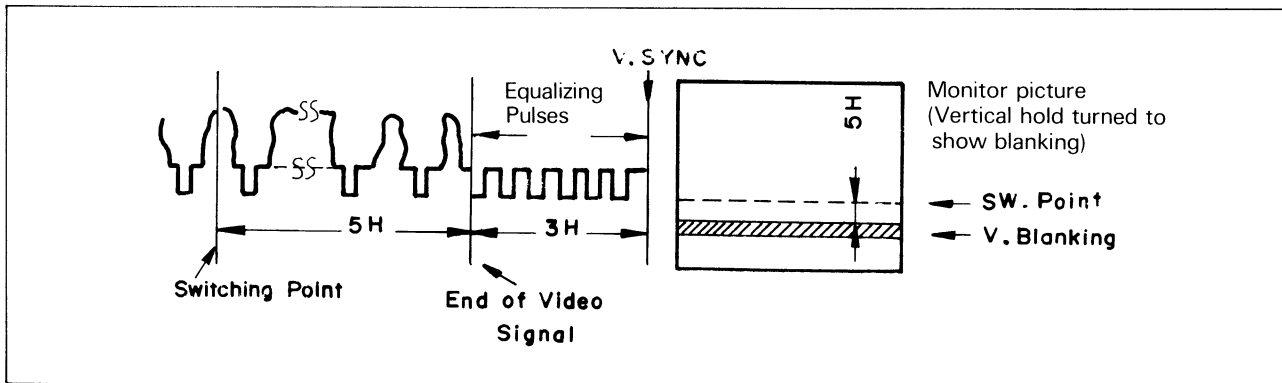

Fig. 5-12. Video output waveform
4. Next, record and then play back with the same VTR (Self-recording). First, record an off-air TV signal, and adjust R75 (SW. Point) so that the switching point at TP-8 occurs 5H prior to the vertical blanking, as shown in Fig. 5-12.